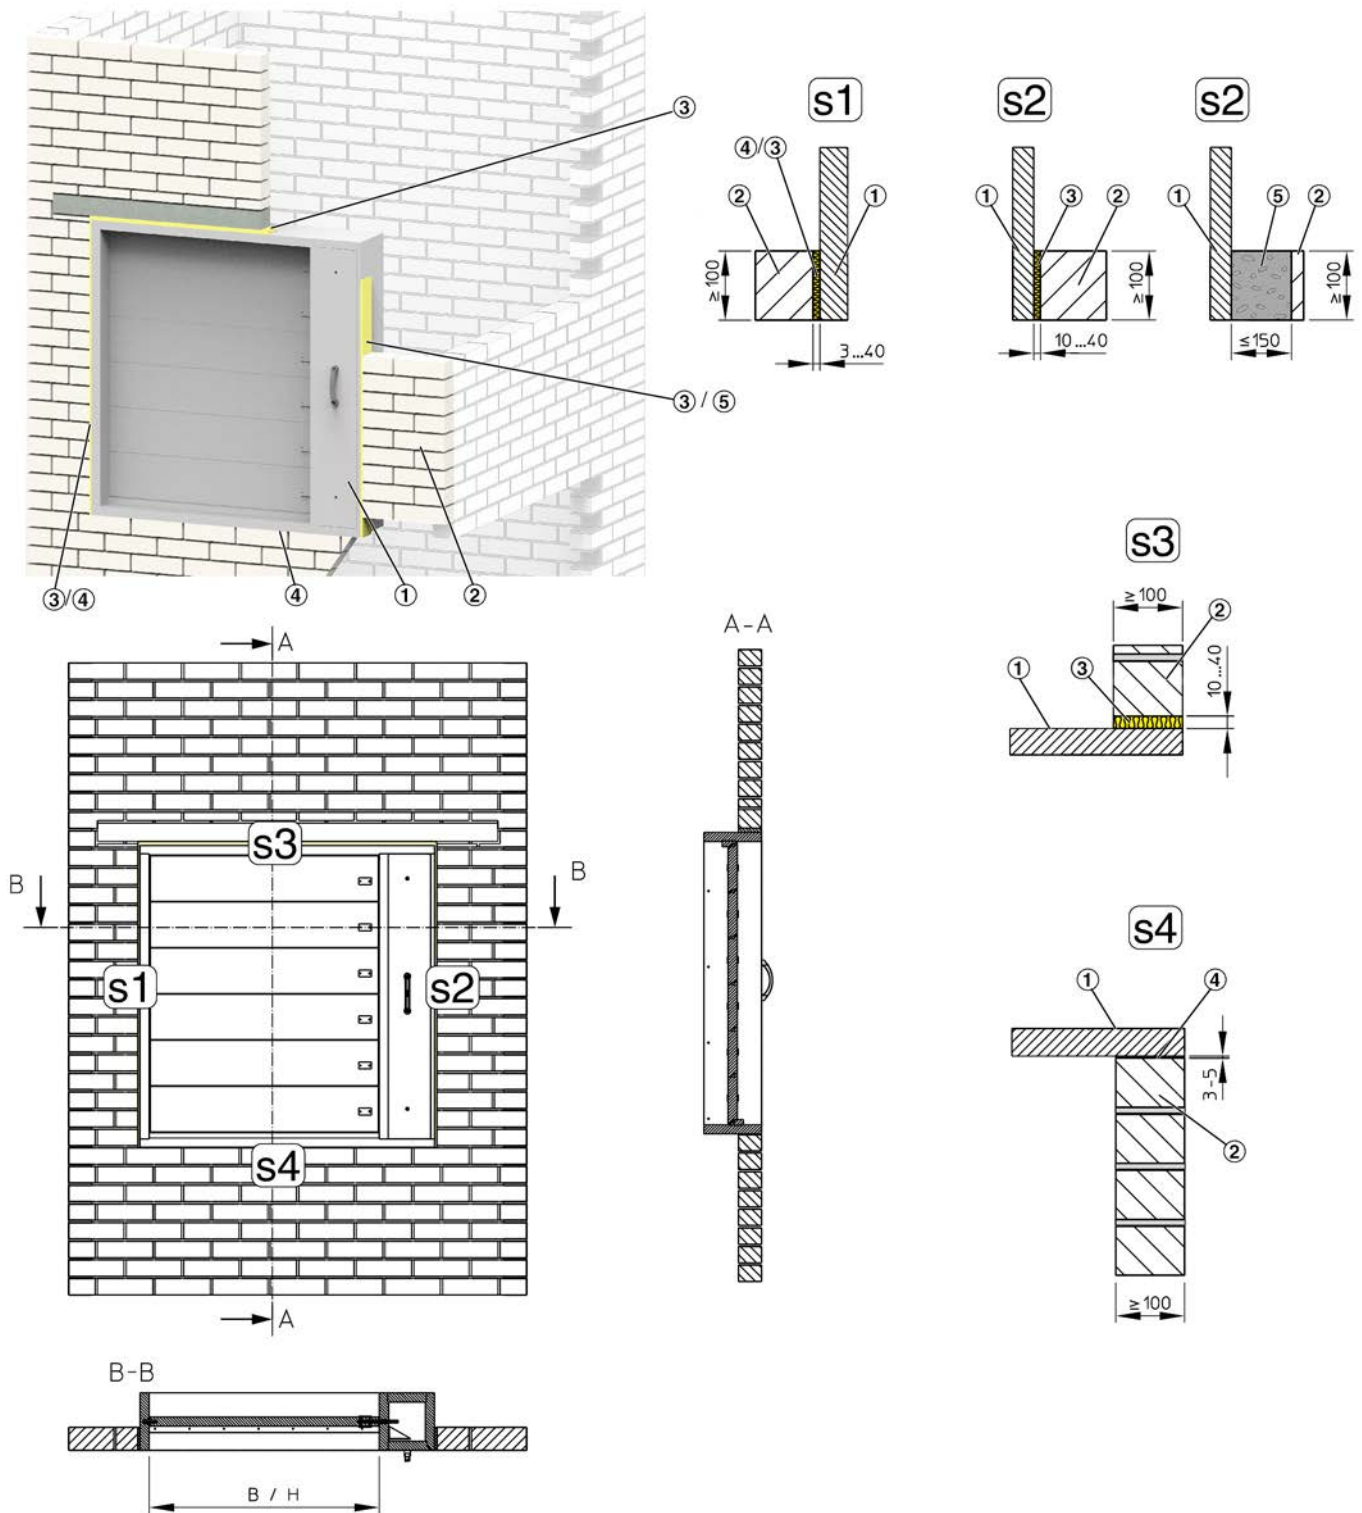

Fig. 18: Installation dry, mortarless or dry, mortarless - mortar-based in solid wall or solid shaft wall
- ▶ On the left trim panel (S1) affix high-temperature sealing tape ( Fig. 18 /4) to the damper frame (wall thickness) or use mineral wool ( Fig. 18 /3), see table above for thickness.
- ▶ On the smoke control damper on the lower side of the damper frame, affix the high-temperature sealing tape ( Fig. 18 /4) (wall thickness), ↪ *18*.
- ▶ Depending on the installation type, affix the high-temperature sealing tape ( Fig. 18 /4) to the smoke control damper on the bottom of the damper frame (wall thickness), ↪ 18 or apply a mortar bed to the lower trim panel (S4).